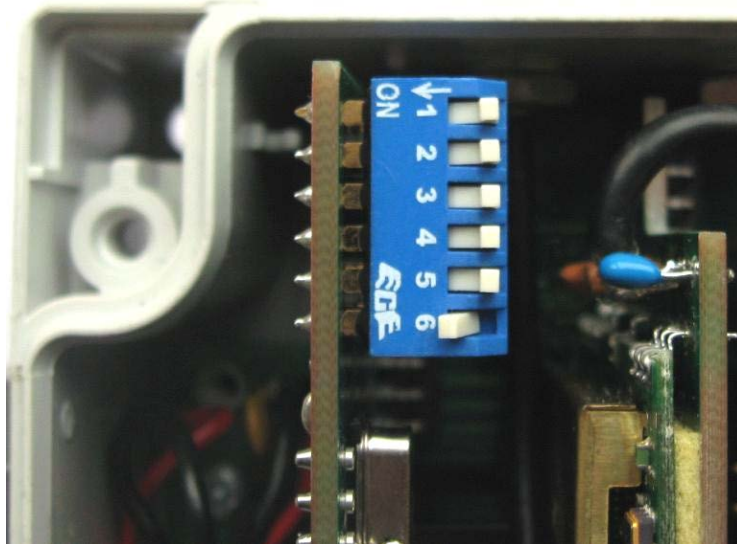

Figure 16: Dip Switch for deleting.
2. Identify the Dip Switch 6 on the power supply module and CPU (see figure 4) and position it "ON" (see figure 16).